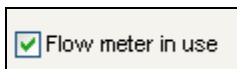

Figure 16.10.6D
- Now check the **Flow meter in use** box if a flow is assigned to this Point of Connection (Figure 16.10.6D).